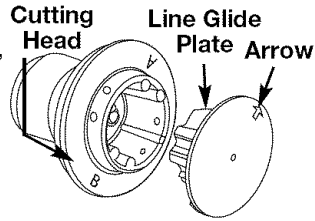

Fig. 10
3. Reinstall line glide plate (Fig. 10). Align arrow with "A" on the cutting head.